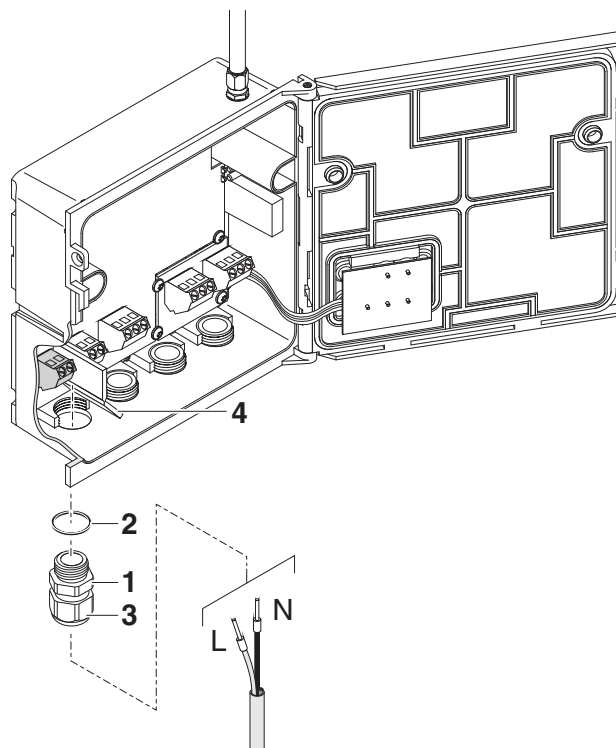

Fig. 3-12 Inserting the supply line.
- 6 | Screw a cable gland (pos. 1 in Fig. 3-12) with sealing ring (pos. 2) into the enclosure below the power supply connection.
- 7 | Loosen the coupling ring (pos. 3).
- 8 | Feed the power line through the cable gland into the enclosure. When doing so bend the flexible divider (pos. 4) to the right.